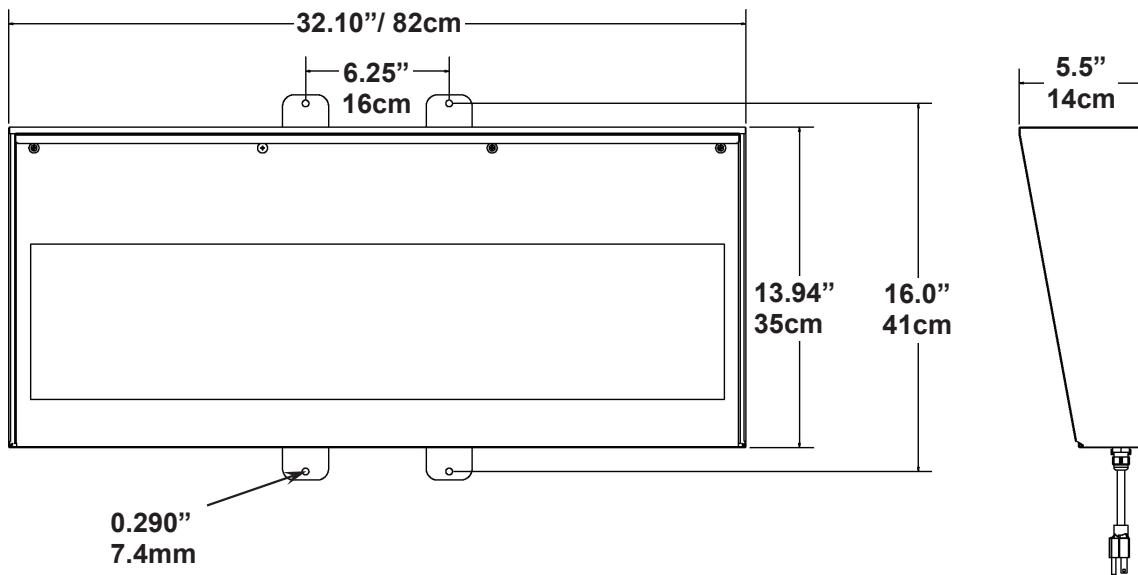

Figure No. 1
The SB500 display is normally mounted on a wall or some other vertical surface. The display is attached to the wall with four (4) bolts. Refer to Figure No. 1 for the mounting hole layout.